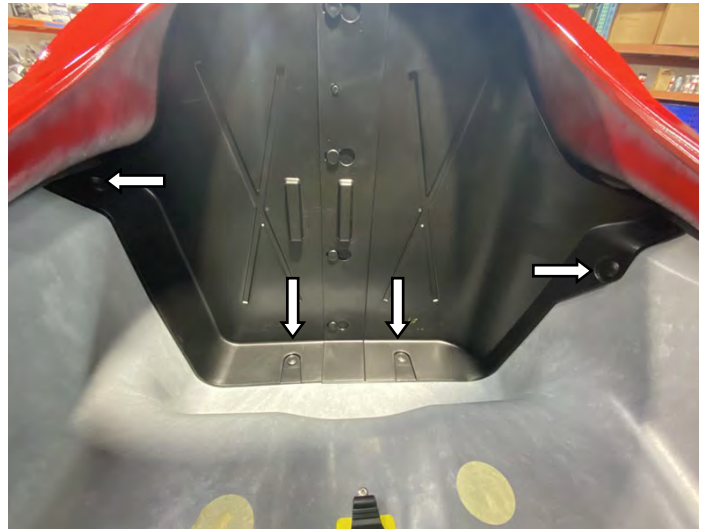

Figure 5
Inside front storage compartment, remove screws/rivets (4) securing bulkhead to hull. Set aside for use later. (See figure 5)